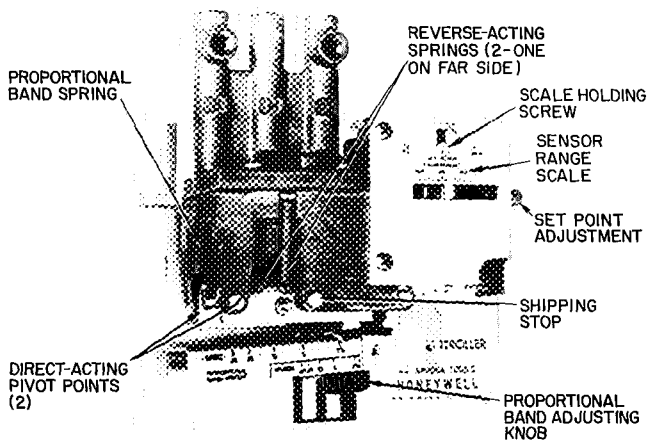

Fig. 16 – Chilled Water Controller (Pneumatic)
PNEUMATIC CONTROLS – Remove shipping stop from chilled water controller (Fig. 16) in control panel. Controller is factory set for direct action. Remove both front and back reverse-acting springs (Fig. 16) and the proportional band spring. Set controller proportional band at 2-1/2%.
3. Set the chilled water controller (Fig. 16) to increase branch air pressure from 3 to 15 psig. When branch air pressure exceeds 8.5 psig, Flotender valve energizes with an audible click.
1. Allow leaving chilled water temperature to stabilize between 40 F and 60 F. (It may be necessary to reset the set point adjustment [Fig. 16].)
3. Loosen holding screw and move sensor range scale (Fig. 16) so that temperature measured at leaving chilled water line is opposite the scale pointer. Retighten holding screw.
4. Now move the scale pointer to the selected design leaving chilled water temperature by turning the set point adjustment (Fig. 16).